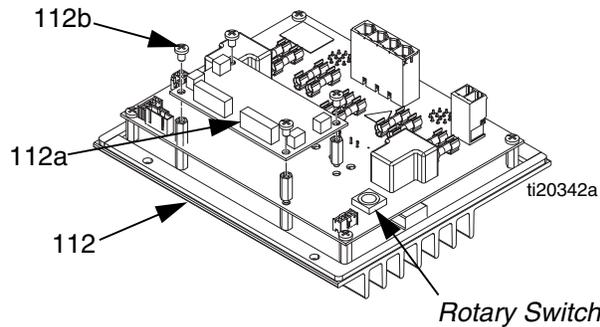

FIG. 43
- Remove electrical enclosure front access door (10).
- Disconnect heated hose electrical connectors from MZLP (112).
- Note location of each cable, then unplug all cables from the MZLP (112) that will be replaced. See FIG. 43.
- Set MZLP rotary switch to “1” on MZLP with daughter card. Set MZLP rotary switch to “2” on MZLP without daughter card. See FIG. 43 for rotary switch location.
- Use four screws (114) to install MZLP (112) to electrical enclosure (1).
- Reconnect cables to MZLP (112).
- Note location of each cable then unplug all cables from MZLP daughter card (112a). See FIG. 43.
- Remove four mounting screws (112b) from daughter card (112a) and set aside. See FIG. 43.